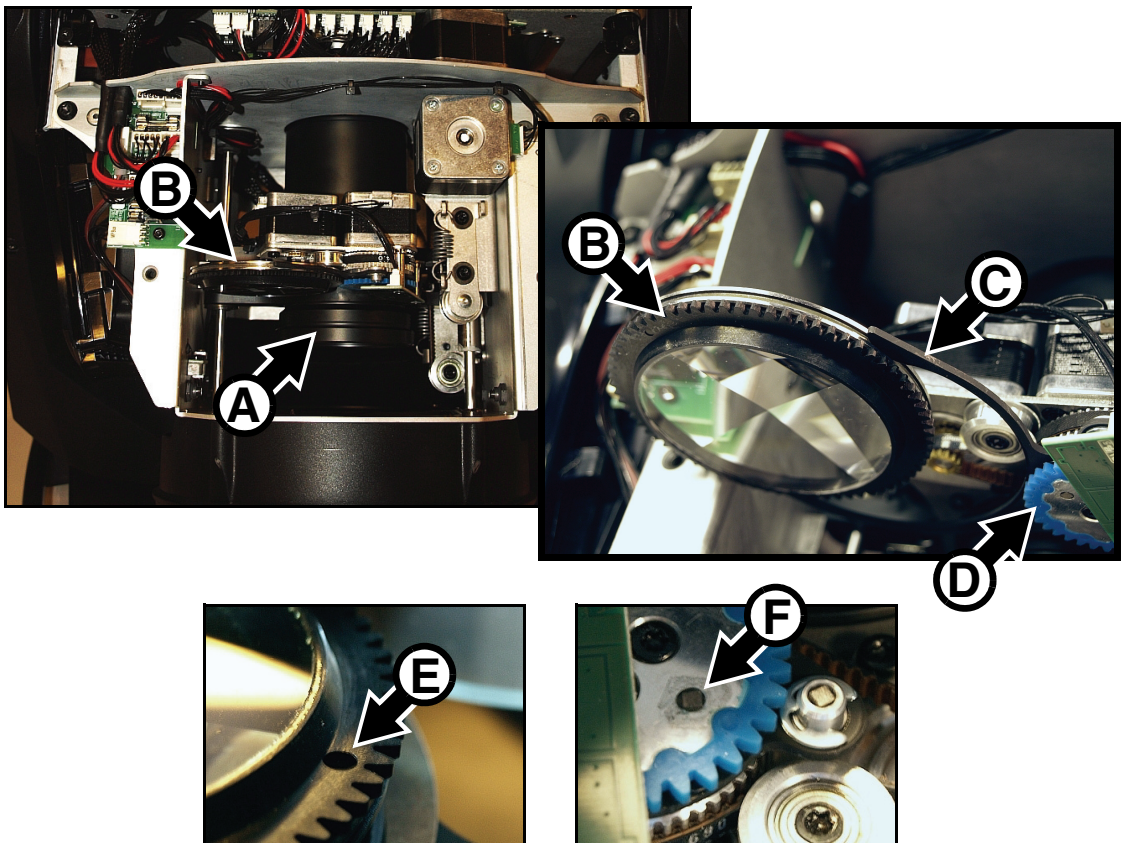

Figure 16: Prism removal and installation
3. See Figure 16. Slide the zoom/focus car **A** to its forward limit.